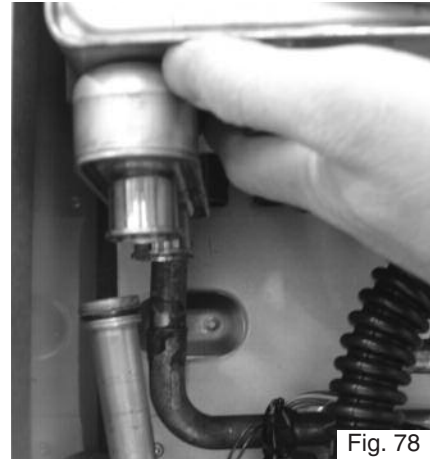

Fig. 78
5. Remove the flow and return pipes and the condense drain pipe from the heat exchanger. (Fig. 78)